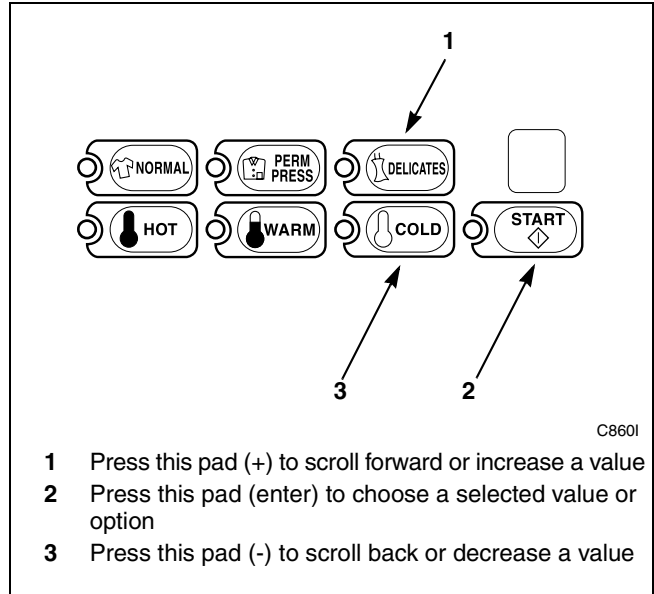

Figure 54
5. Press the DELICATES (+) or the COLD (-) keypad to increase or decrease the start month to the desired month. Refer to *Figure 54*.